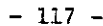

Figure 7-11 (Left hand side view)
- (1) Apply the CH1 signal output to the CH2 input terminal.
- (2) Display the CH2 input signal on the screen and set the VOLTS/DIV switch at the 10 mV range.
- (3) Changing the CH2 input coupling switch between GND and DC, so adjust the CH1 SIGNAL OUTPUT DC OFFSET control RV110 (Figure 7-11) that shift of the trace becomes zero.
- (1) Apply a sinusoidal signal of approximately 1 kHz to the CH1 input terminal and set the AC-GND-DC switch at AC.
- (2) Set the VERT MODE switch at CH1, set the INT TRIG switch at CH1 or ALT, and display the signal with an amplitude of 8 DIV on the screen.
- (3) Set the COUPLING switch at AC and so adjust the LEVEL knob that the trigger point is brought to the center of the displayed waveform amplitude.
- (4) Change the COUPLING switch to DC and so adjust the CH1 TRIG DC OFFSET (Figure 7-11, RV107) that the trigger point is brought to the center of the displayed waveform amplitude.
For this adjustment, adjust CH2 TRIG DC OFFSET (Figure 7-11, RV207) in a similar manner as is the case for "Adjustment of CH1 TRIG DC OFFSET."
- (1) Set at 100 mVp-p the output of the signal generator used for "Calibration of sensitivity" of section 7.5, and apply the output to the CH1 (X-axis) input terminal.
- (2) Set the VERT MODE switch (26) in the X-Y state. Set the AC-GND-DC switch (13) of CH2 (Y-axis) at GND.
- (3) Set the VARIABLE knob (22) at CAL'D and the VOLTS/DIV switch (23) at 10 mV.
- (4) So adjust the CH1 & CH3 HOR GAIN (Figure 7-11, RV307) that the trace length becomes 10 DIV.
- (1) Set the VERT MODE switch (26) at CH1 and the AC-GND-DC switches (13) and (20) at GND.
- (2) Move the trace to the center of the screen with the POSITION control knob (24).
- (3) Next, turn the VERT MODE switch (26) to the X-Y position, and so adjust the CH1 & CH3 HOR POSITION CENT control (Figure 7-11, RV306) that the spot is placed in the center from the right and left ends.